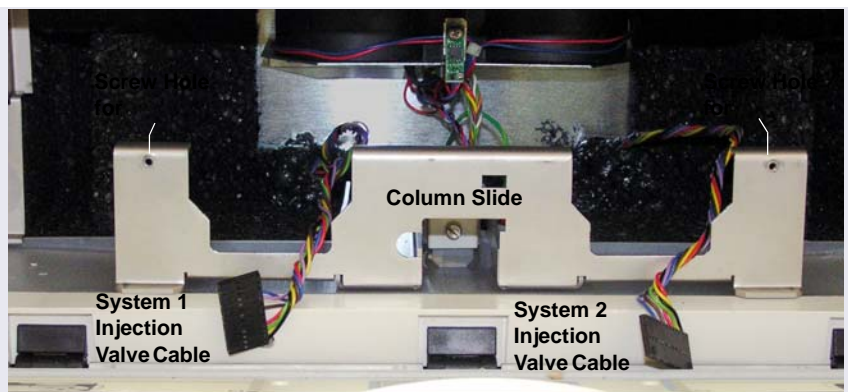
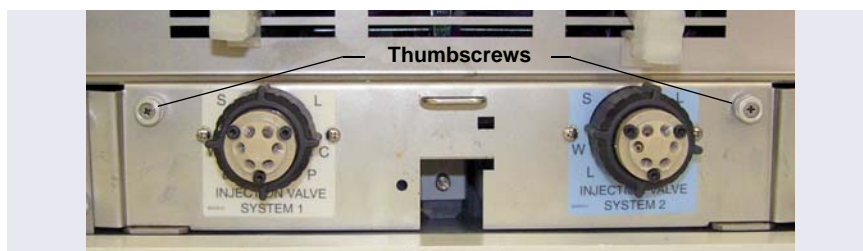

Figure B-19. DC Lower Compartment Column Slide and Injection Valve Cables
Figure B-20. DC Lower Compartment Injection Valve Panel:
3. Pull the column slide forward (see Figure B-19).
4. Connect the system 1 injection valve cable (labeled **SYS 1**) (see Figure B-19) to the connector on the back of the system 1 valve (left side). For a dual-valve panel, also connect the **SYS 2** cable to the system 2 valve (right side).
5. Align the captive thumbscrews on the panel (see Figure B-20) with the screw holes on the column slide (see Figure B-19).